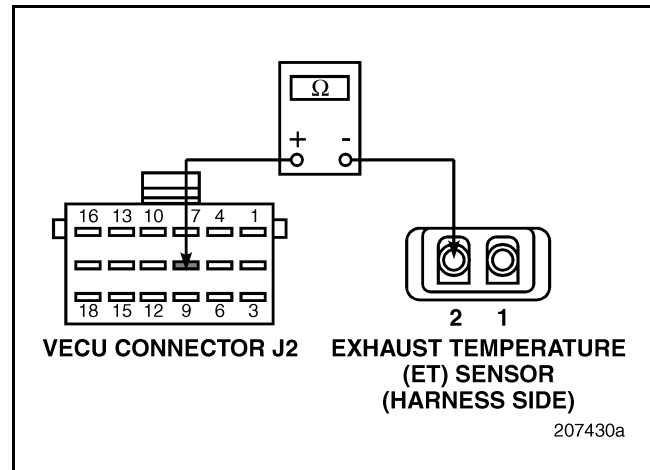

Figure 347
2. Disconnect the Exhaust Temperature (ET) Sensor connector.
4. Check for continuity between Exhaust Temperature (ET) Sensor harness connector pin 2 and Vehicle Electronic Control Unit (VECU) connector J2 pin 8 (see Figure 347).